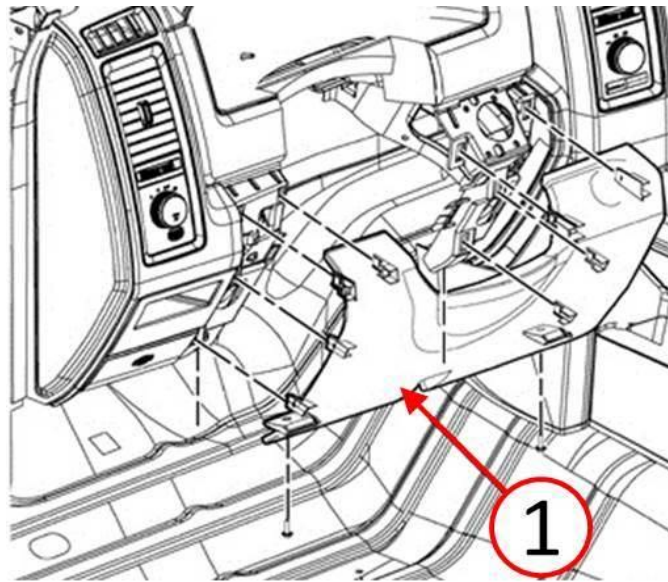

Fig. 3 Steering Column Cover Removal
7. Remove the steering column cover (Fig. 3). Refer to the detailed service procedures available in DealerCONNECT> TechCONNECT under: Service Info> 23 - Body> Instrument Panel> COVER, Steering Column Opening> Removal.